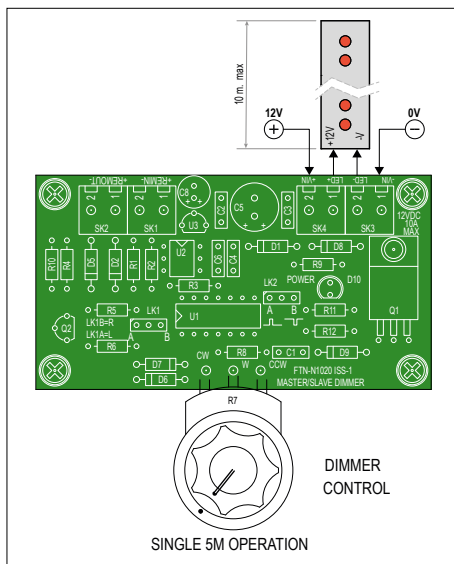

Figure 2. Connecting up for local control.
- Manual control is enabled with potentiometer R7 fitted, and controls the LEDs in the string(s) connected from 1% to 99% brightness approximately. This 'local' mode (**Figure 2**) is selected with link LK1 in position A, and LK2 in position A also. The signal is then passed on to MOSFET Q1 and onto the LED striplight(s) (10 m max., or 2 × 5 m, 12 VDC, single color).